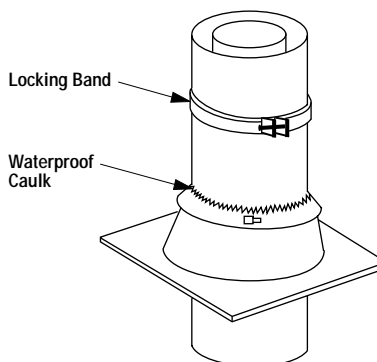

Figure 32
Step 8. Slide the FTF8 storm collar (ordered separately) over outer chimney. Rest on flashing spacers and align with top surface of flashing. Insert tab in slot, pull tight and bend tab back over slot. Seal storm collar to outer chimney with roof caulking or mastic around entire circumference of pipe. Also add extra roof caulking to the tab/slot area to seal completely against water penetration (**Figure 32**). Check all joints very carefully to ensure no water intrusion can take place.
Step 9. Security Chimneys locking bands, Model FLB, may be required if the chimney extends too high above the roof flashing. As a general rule, if the chimney extends more than 6' above the roof flashing, the use of locking bands is advisable to strengthen the chimney assembly. Align the locking band at the chimney joint. Locking bands wrap around pipe joints equally covering the joints of both pipe sections. Use the nut provided and TIGHTEN snugly. Do not overtighten as this might damage the chimney section (refer to **Figure 32**).